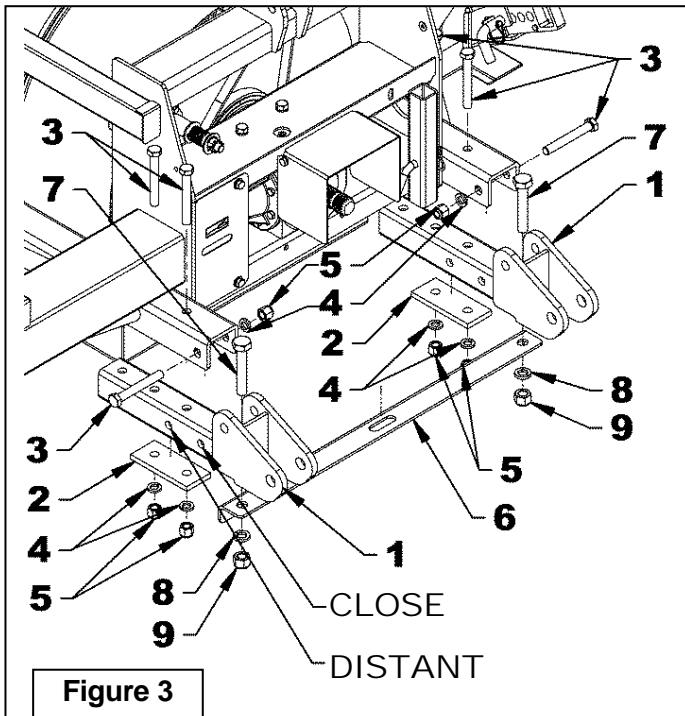

Figure 3
1. **Figure 3:** Install the lower hitches (item 1) on snowblower using two reinforcement plates (item 2) under the each hitches and secure with six 3/4"NC x 5 1/2" bolts, 3/4" lockwashers and 3/4" nylon insert lock nuts (items 3-4-5).
2. **Figure 3:** Install the brace (item 6) under the lower hitches (item 1) with two 7/8" NC x 5" bolts (item 7), lockwashers and nylon insert nuts (items 8-9).
3. **Figure 4:** Attach the right and left hitches (items 1-2) to the lower hitches (figure 3, items 1) as illustrated. Secure with two 7/8"NC x 3" bolts and stover lock nuts (items 3-4).